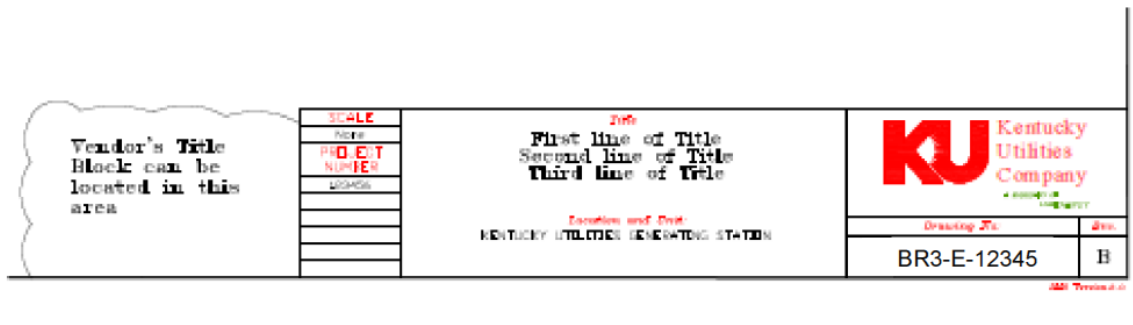

Figure 1
3. The title block attributes shall be filled out. See Table 3 for typical title block attributes and Figure 1 for a sample title block. Other LG&E / KU title blocks may be used depending on plant locations and drawing size.
4. The Contractor shall provide their company name in the Originally Designed by attribute in the title block. In addition, they may insert their own title block, company logo, and/or PE stamp to the immediate left of the Owner's title block as a separate AutoCAD block. This information shall not stand taller than the Owner's title block. See Figure 1.